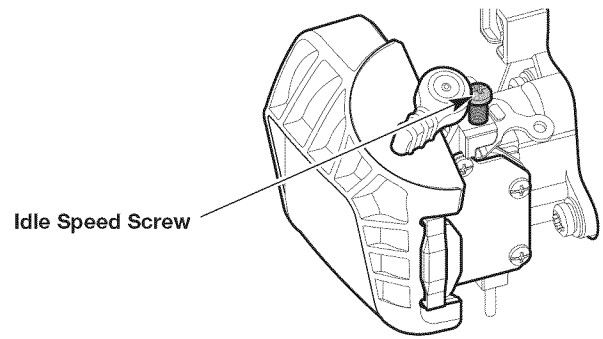

Fig. 10
2. Move the cruise control to the **LO (slow)** position and let the engine idle. If the engine stops, increase the idle speed. Use a small Phillips screwdriver to turn the idle speed screw clockwise, 1/8 of a turn at a time, until the engine idles smoothly (Fig. 10).